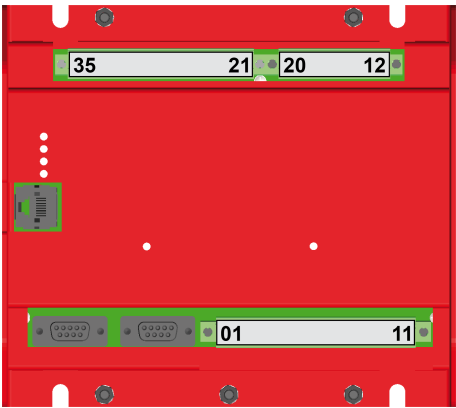

Fig. 8: Sheet metal housing
- Sheet metal housing - shown in Fig. 8